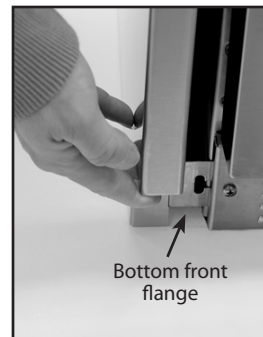
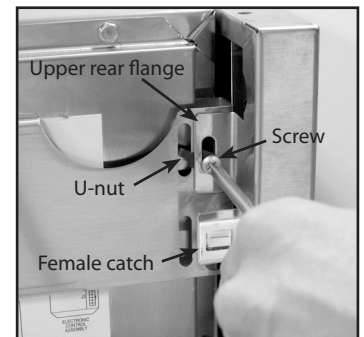

Fig. 07
Fig. 08
4. Place the left side panel on the unit by sliding the bottom front flange behind the front grill plate (Fig. 07). Then lift the rear of the panel so the U-nut holes are visible in the slotted holes of the upper and lower rear flanges of the panel. Install machine screws (10-24 X 3/8) into U-nuts as shown (Fig. 08 and 09). Do not tighten at this point.
3. Align the bottom front flange with the Icemaker (Fig. 06). Slide the units together so the U-nut holes are visible in the slotted holes of the upper and lower rear flanges of the side panel. Install machine screws (10-24 X 3/8) into U-nuts as shown (Fig. 07 and 08). Do not tighten at this point. Take care not to damage flanges on the female clips.
5. Place the other side panel on the unit by aligning bottom front flange with the Icemaker (Fig. 06). Lift the rear of the side so the U-nut holes are visible in the slotted holes of the upper and lower rear flanges of the side panel. Install machine screws (10-24 X 3/8) into U-nuts as shown (Fig. 07 and 08). Do not tighten at this point. Take care not to damage flanges on the female clips.